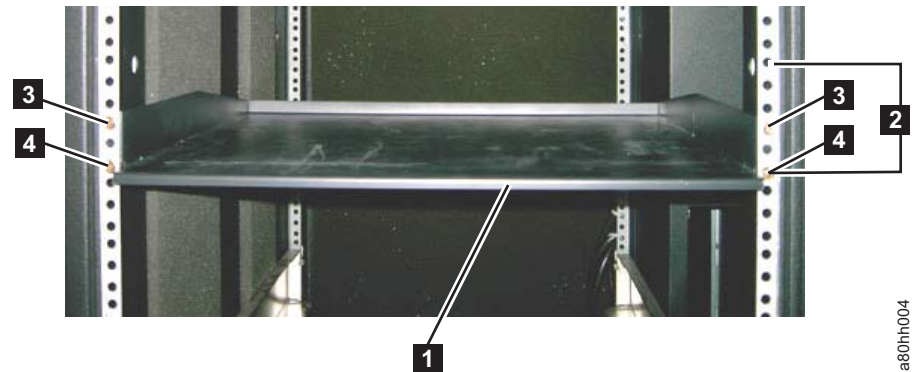

Figure D-1. Front view of shelf attached to rack rails
1. Decide at what level you want to install the shelf. The 3580 requires 3 units (EIAs) of rack space (see **2** in Figure D-1).